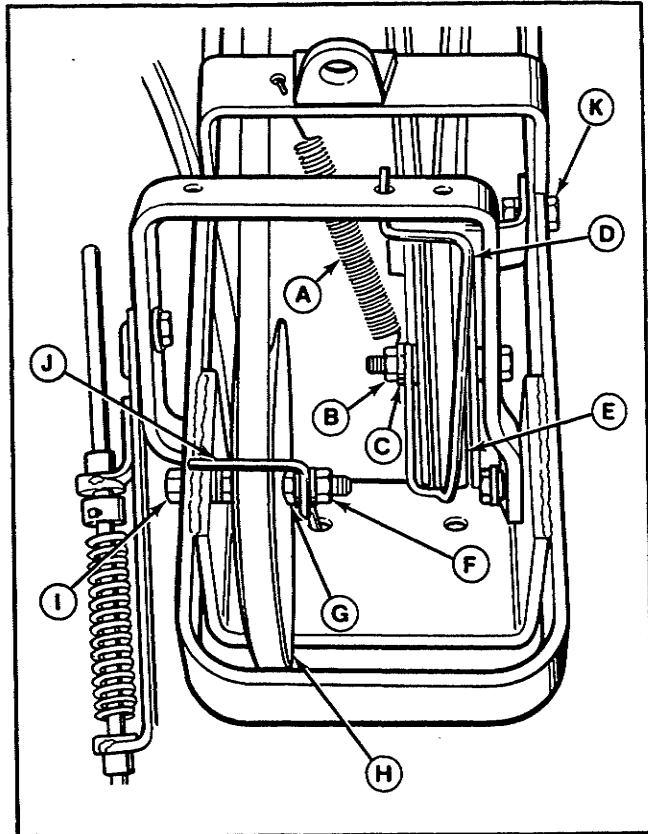

Figure 11. Hitch, Viewed from Rear
3. Remove the nut (B, figure 11) from the flat idler pulley (E). Unhook the spring (A).
4. Remove the flat washer (C) and belt guide (D) from the flat idler pulley.
5. Loosen the nut (F) on the V-idler pulley (H) enough to slip the belt guide (J) off the capscrew. Remove the belt guide.